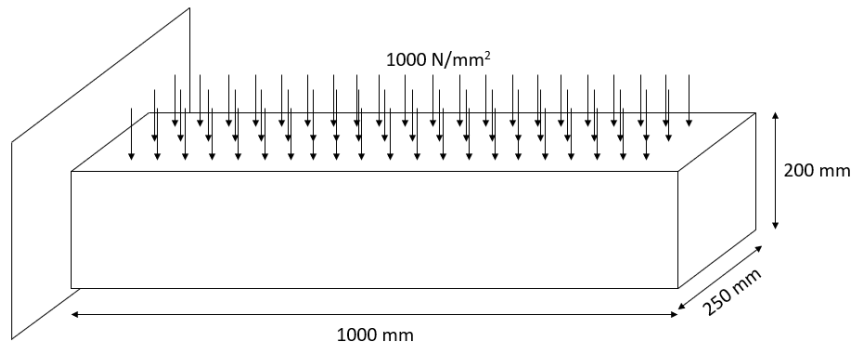

Figure 3
6. Find out the stress distribution of the cantilever beam of 1000 mm in length and has a 250mm x 200mm rectangular cross-section under the uniform distributed load of 1000 N/mm² applied on the top surface as shown in Figure 3. The section is made up of a concrete having a value of 25000 N/mm² for Young's modulus and a value of 0.2 for Poisson's ratio in the respective fields.